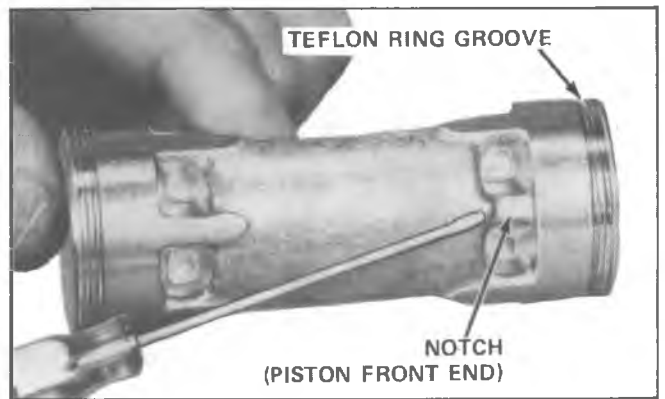
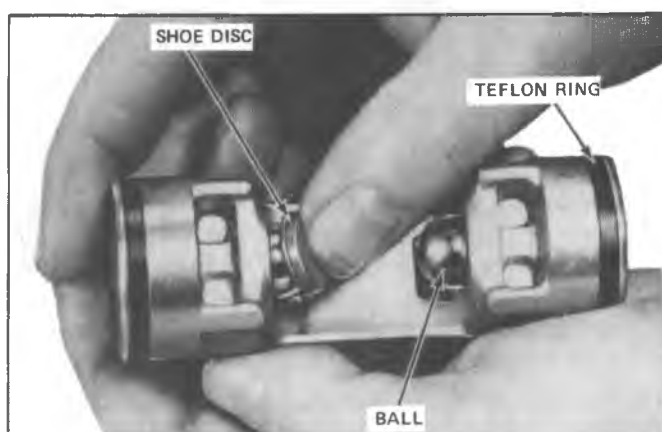

Fig. 32--Notch Identifying Front End of A-6 Piston
Fig. 37—Installing FRONT Shoe Disc
8. Place piston in No. 1 compartment of Parts Tray J-9402, with notch in casting web at front end of piston (Fig. 32) into the dimpled groove of Parts Tray compartment.
7. Lubricate cavity of a ZERO shoe disc with 525 viscosity refrigerant oil and place shoe disc over ball in **front end** of piston (Fig. 37). **Front end of piston has an identifying notch in casting web** (Fig. 32).